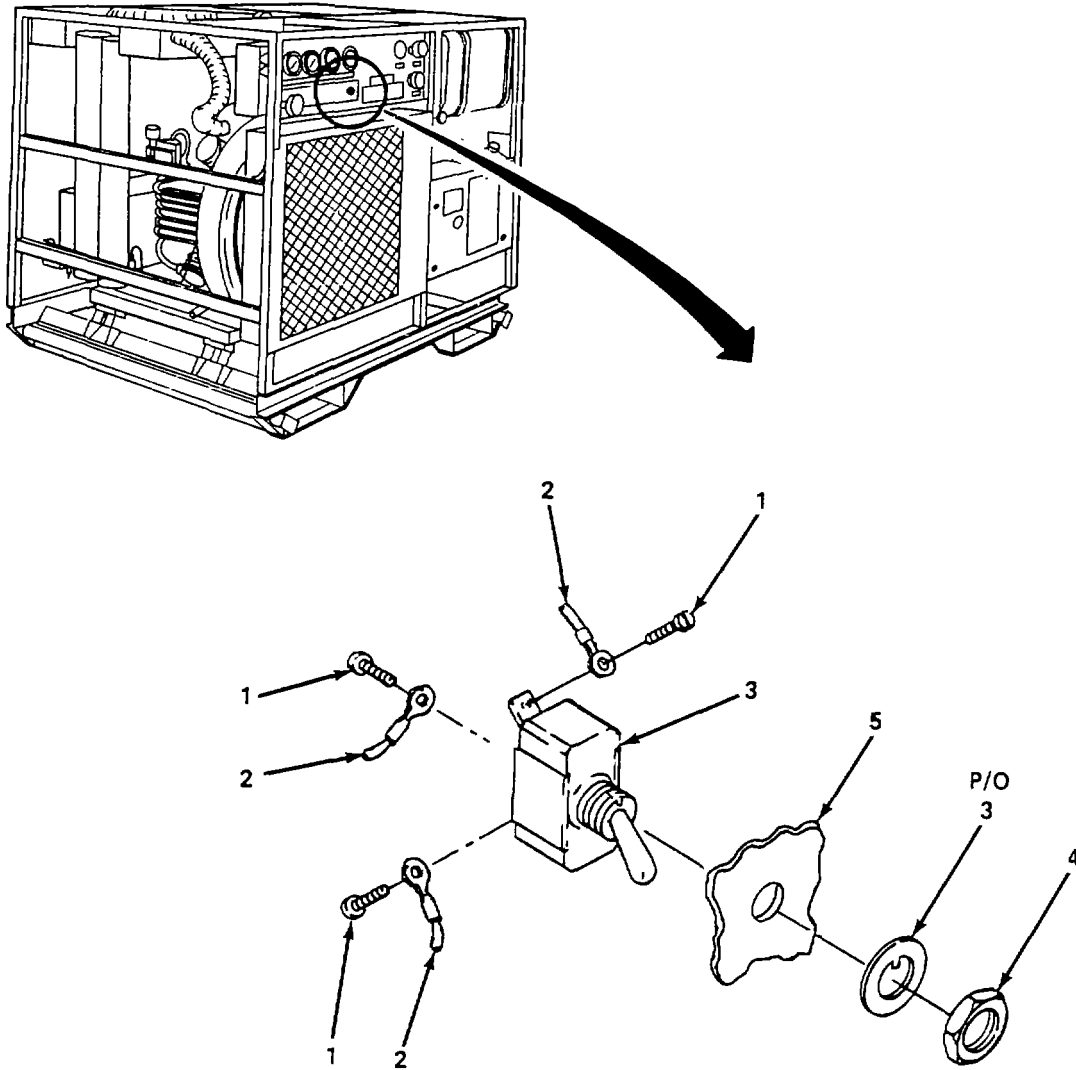

Figure 4-15. Engine RUN/STOP Switch, Replace.
(6) Engine RUN/STOP switch. (figure 4-15)
- (a) Loosen three screws (1) and tag and remove five wires (2) from switch (3).
- (b) Remove nut (4) and remove switch (3) from control panel (5).
- (c) Install switch (3) and secure with nut (4).
- (d) Install five wires (2) and tighten three screws (1).